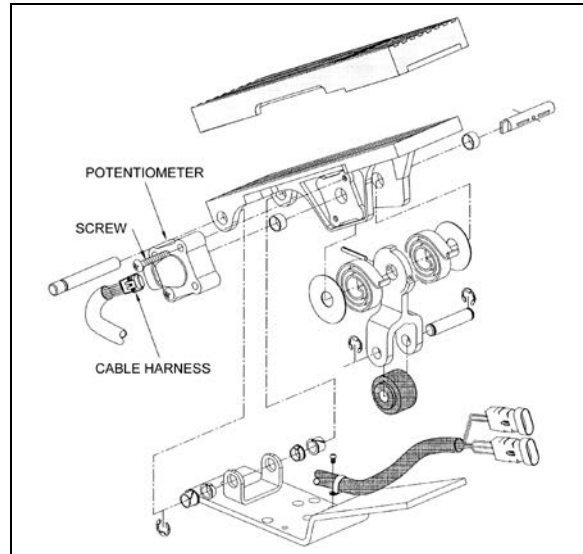

FIGURE 16: ELECTRONIC FOOT PEDAL ASSEMBLY 03035
3. Discard potentiometer (Figure 16).
4. Position new potentiometer. Press potentiometer onto the potentiometer shaft, matching cutouts in shaft to drive tangs of potentiometer. Apply hand pressure until potentiometer has bottomed out in housing. Reinstall screws (Figure 16) and tighten just enough to secure potentiometer lightly. Tighten screws to 10 - 20 lbf-in (1.13 – 2.26 Nm).